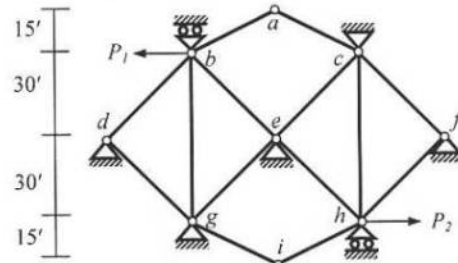

Fig. 2
2. Use Stiffness Method (neglecting axial deformations) to calculate the joint deflection and rotation of the beam shown in *Fig. 2* [Given, $EI = 40 \times 10^3 \text{ k-ft}^2$, $EI_{AB} = 2EI_{BCD}$].
2. Fig. 2 shows a plane truss whose joints *b* and *h* deflect $0.50'$ to left and right respectively due to the forces applied.